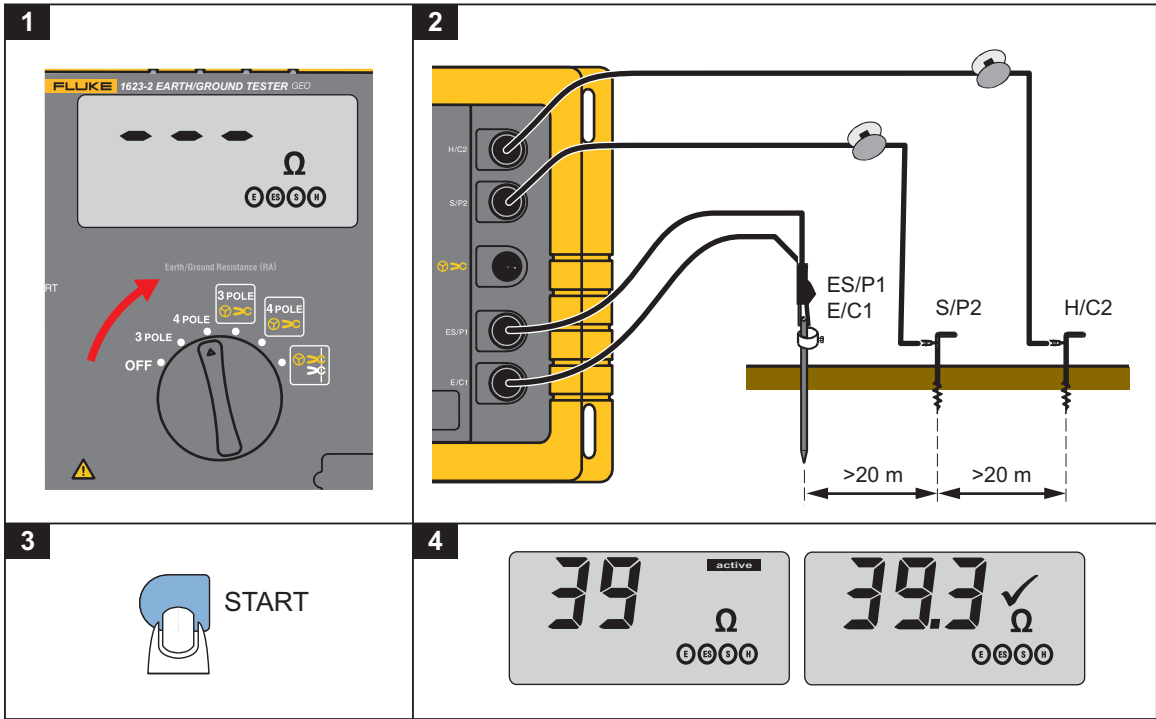

Figure 5. RA 4-Pole Measurements
1. Select **4 POLE** function. See Figure 5.